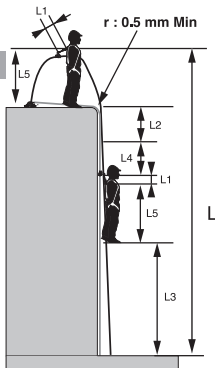

FIG. 5
- The anchorage point of the stopfor™ fall arrest device is located at the same height or above the edge (Figures 5.a, 5.b, 5.c).
- The angle formed by the belay device in contact with the edge if there is a fall is at least 90° (Figures 5.a, 5.b).